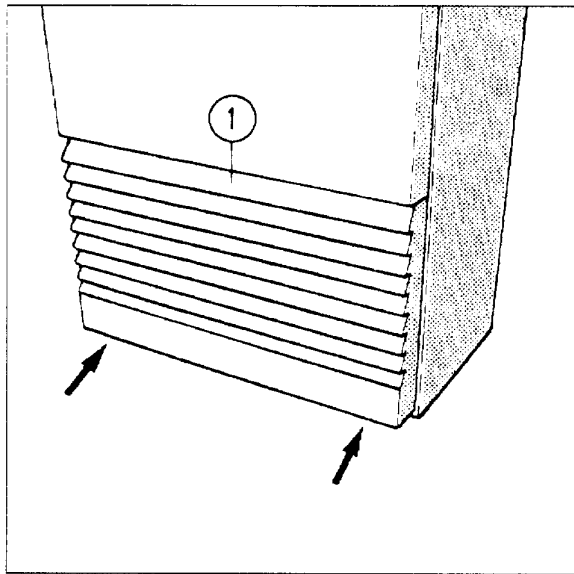

Fig. 6
- Snap out the lower plastic cover (1/Fig.6) and remove it (to do this, press the latches according to the arrow in Fig. 1 toward the top.)